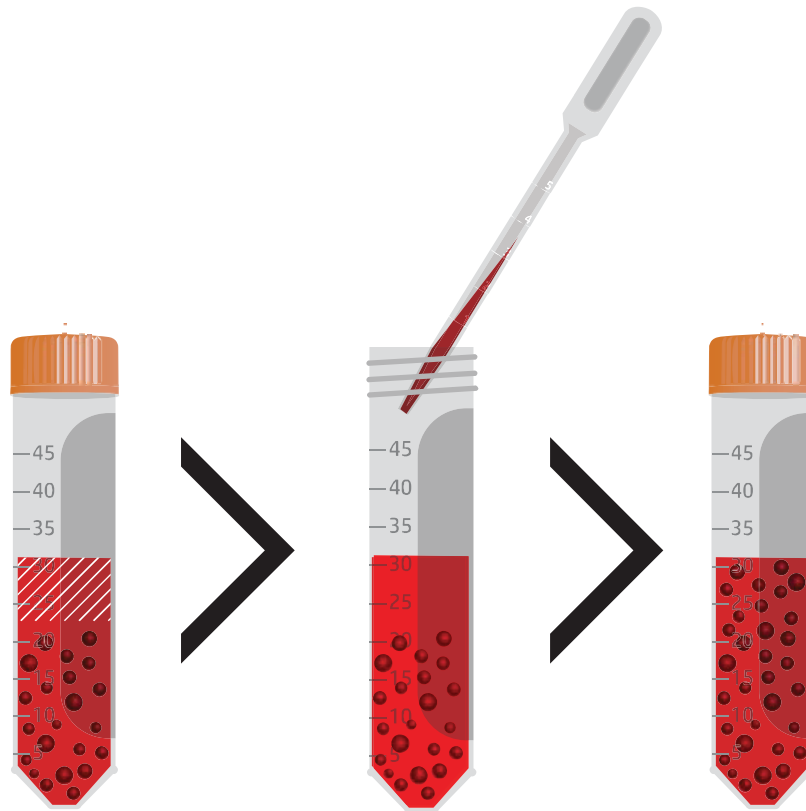

Figure 1. Media replacement using Happy Cell[®] ASM in either bioreactor tubes or microtiter plates.
2. Remove a small volume of medium from the surface of the liquid (~20% total volume) and replace with fresh medium. Make sure not to disturb the cells (Figure 1 below).